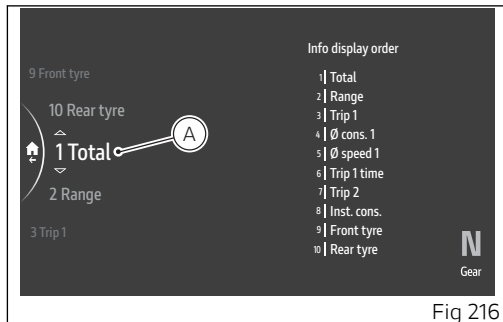

Fig 216
- Two arrows (A, Fig 216), are displayed above and below the position number indicating that it can be changed from 1 to 10 (in this example “3”) using the corresponding joystick positions ▲ ▼.